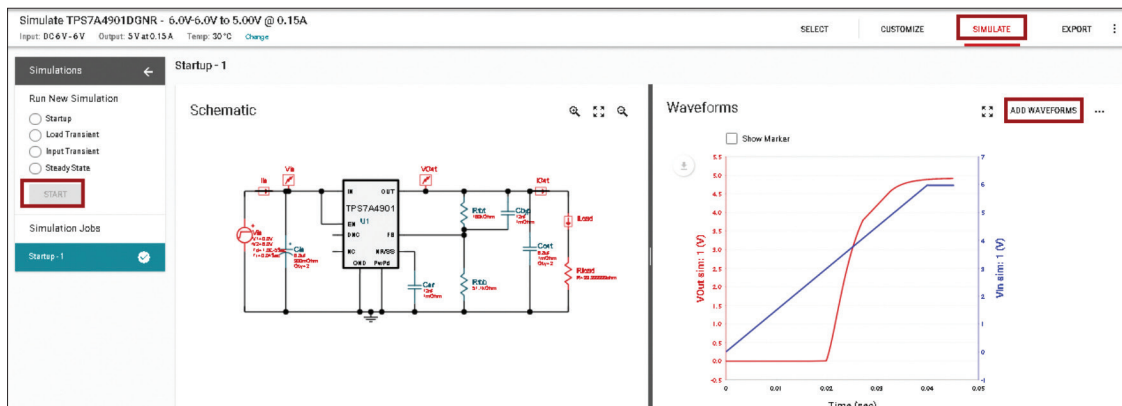

Figure 2.
**Note:**  $R_{load} = 33.3 \text{ ohms}$ , for the case  $I_{OUT} = 150\text{mA}$ . See **Figure 2**.